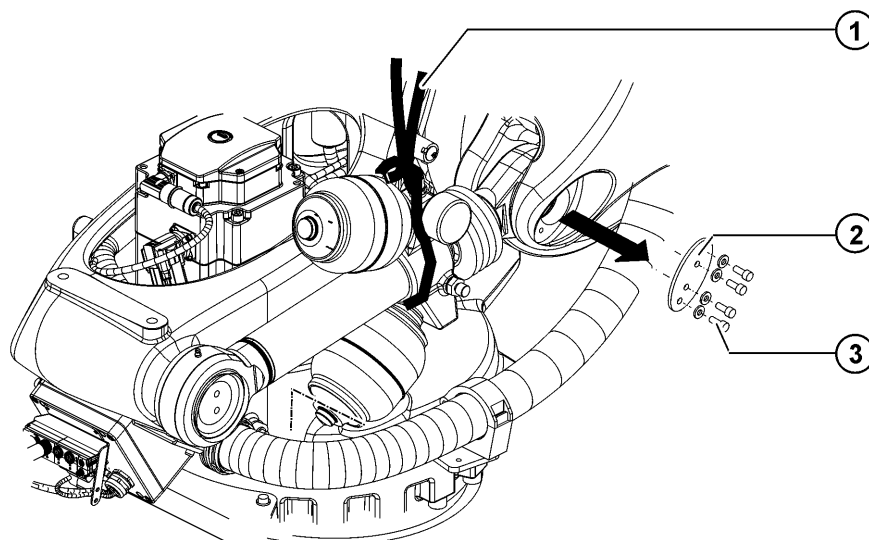

Fig. 11-27: Removing the counterbalancing system on a ceiling-mounted robot
1. Put the robot into operation and move the link arm into the minus 90° position (>>> Fig. 11-27).